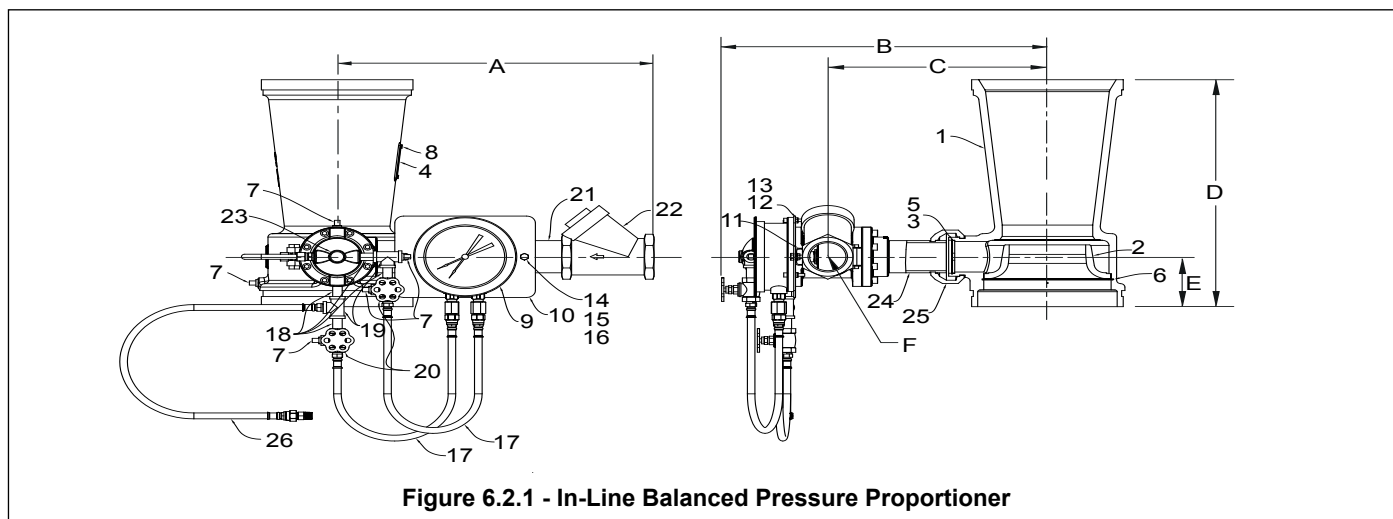

Figure 6.2.1 - In-Line Balanced Pressure Proportioner
- The foam concentrate supply line diameter may need to be increased above the foam inlet size ("F" Fig 6.2.1) due to friction loss in piping from the riser back to the foam source
- If installed in a horizontal header, the check valve ("22" Fig 6.2.1) must be oriented so that the clapper is perpendicular to the floor and access hole is facing up (as shown below)
- Straight piping equal to a minimum of five (5) pipe diameters should be installed before and after the ILBP (ratio controller) to help ensure proportioning accuracy